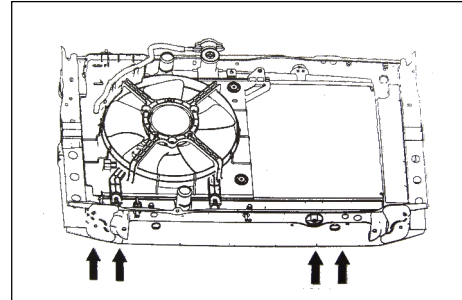

Figure 5-9
(8) Remove the radiator assembly, remove 4 bolts, and separate the fan and the fan housing (see Figure 5-9).